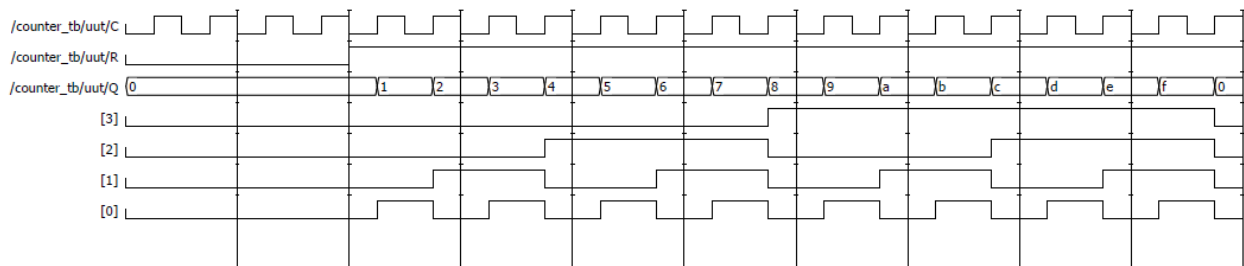

Figure 3 – Counter Signals
- Note how each counter output (other than the LSB) changes at the positive edge of the clock whenever all previous stages are ‘1’, otherwise it holds its current value. For example, in figure 3 at the transition from “3” to “4”, Q[0] and Q[1] are ‘1’. Q[1] and Q[2] therefore change (in this case from ‘1’ to ‘0’ and ‘0’ to ‘1’ respectively) and Q[3] doesn’t change. Craft a way to implement this logic using an inverting mux (providing the “change” and “hold” values to the flip-flop’s D input).